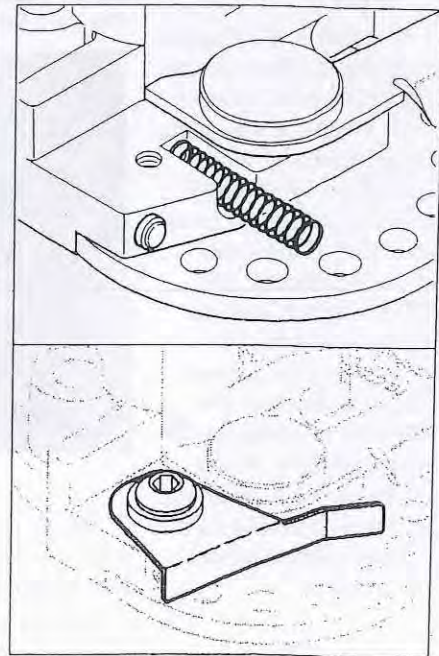

Fig. 12
3. Place the spring in the channel, top Fig. 12. To install the new Station 2 locator, first trap the spring